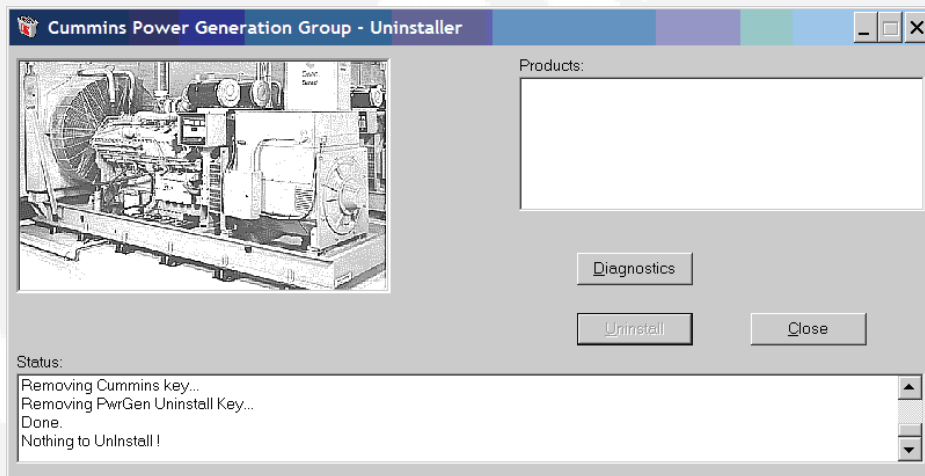

FIGURE A-10. UNINSTALL CONFIRMATION
18. Monitor the text in the *Output* box, when the text reads *Done. Nothing to Uninstall*, click on the **Close** button. Figure A-10.